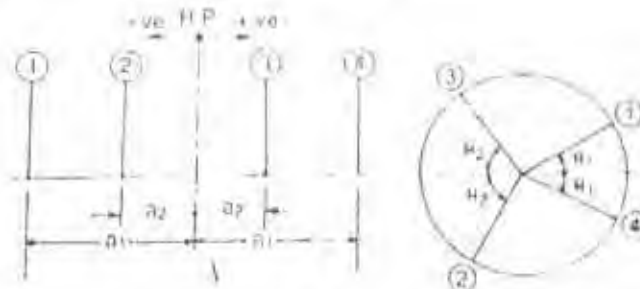

Fig. 3
- b Fig.3 Shows the arrangement of the cranks in a four crank symmetrical engine in which the masses of the reciprocating parts at cranks 1 and 4 are each equal to m_1 and at cranks 2 and 3 are each equal to m_2 . Show that the arrangement is balanced for primary forces and couples and for secondary forces provided for that $\frac{m_1}{m_2} = \frac{\cos\theta_2}{\cos\theta_1}$; $\frac{a_1}{a_2} = \frac{\tan\theta_2}{\tan\theta_1}$ and $\cos\theta_1 \times \cos\theta_2 = \frac{1}{2}$ 12